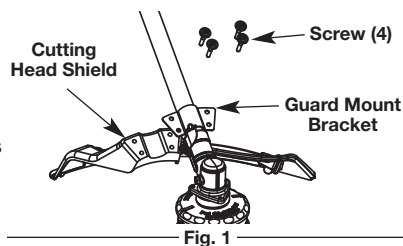

Fig. 1
1. Place the cutting head shield onto the guard mount bracket, making sure to align the holes on the shield with the ones in the guard mount bracket. (Fig. 1)
2. Place the D-handle over the shaft housing and onto the bottom clamp (Fig. 1). Move it a minimum of 6 inches (15.24 cm) from the end of the shaft grip.
1. Remove the cutting head shield from the shaft housing (Fig. 1).
4. Attach the cutting head shield to the shaft housing with screws (4) (Fig. 1).